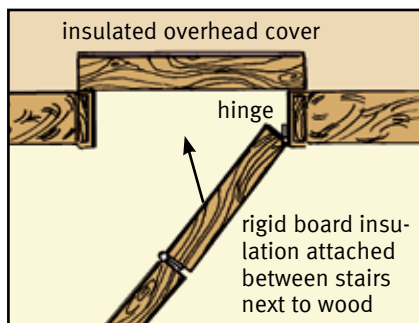

Figure 7 - Pull-down attic stairs
- **Pull-down stairs.** Weather strip and install an airtight insulated cover. Cover should be hinged or removable (see Figure 7).